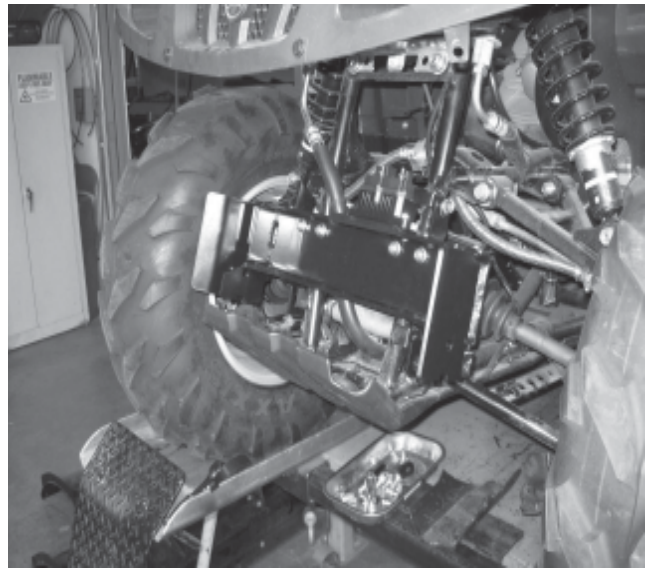

Figure 4
- Center the mounting bracket between the top 2 mounting tabs. The front grab bar assembly will have to fit between the mounting tabs on the frame tubes and the mounting tabs on the front plow mount bracket. Once the mounting bracket is centered place the 2, M8 u-bolts around the frame tubes and into the front plow mount bracket, see figures 4 and 5. Do not tighten the u-bolts at this time just snug them up. The bracket may need to be moved slightly to allow for the front bumper assembly to fit into position.